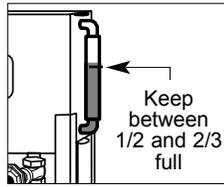

fig. 2
3. Ensure the hydraulic power unit is kept between 1/2 and 2/3 full of hydraulic oil — *fig. 2*.